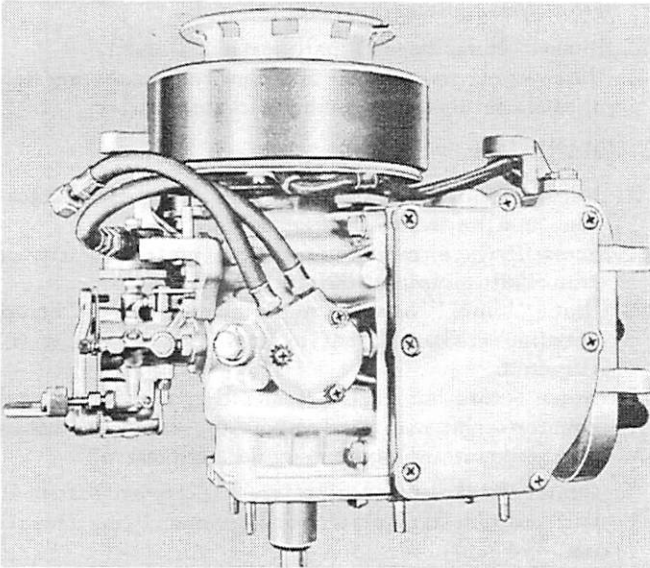

Figure 1. Powerhead on Stand
4. Place powerhead on splined Powerhead Stand (91-24259) held in a vise. (Figure 1)